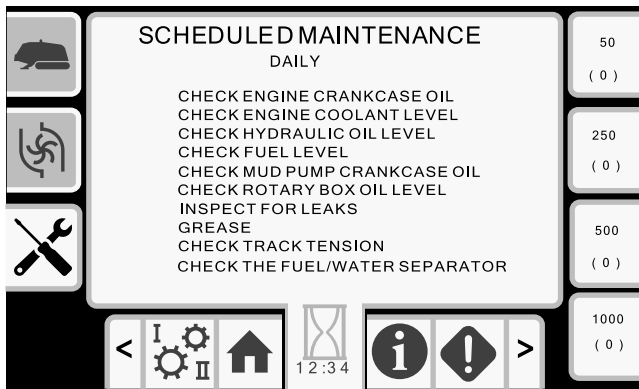

Figure 47
- Button 3—Daily maintenance schedule (Figure 47)